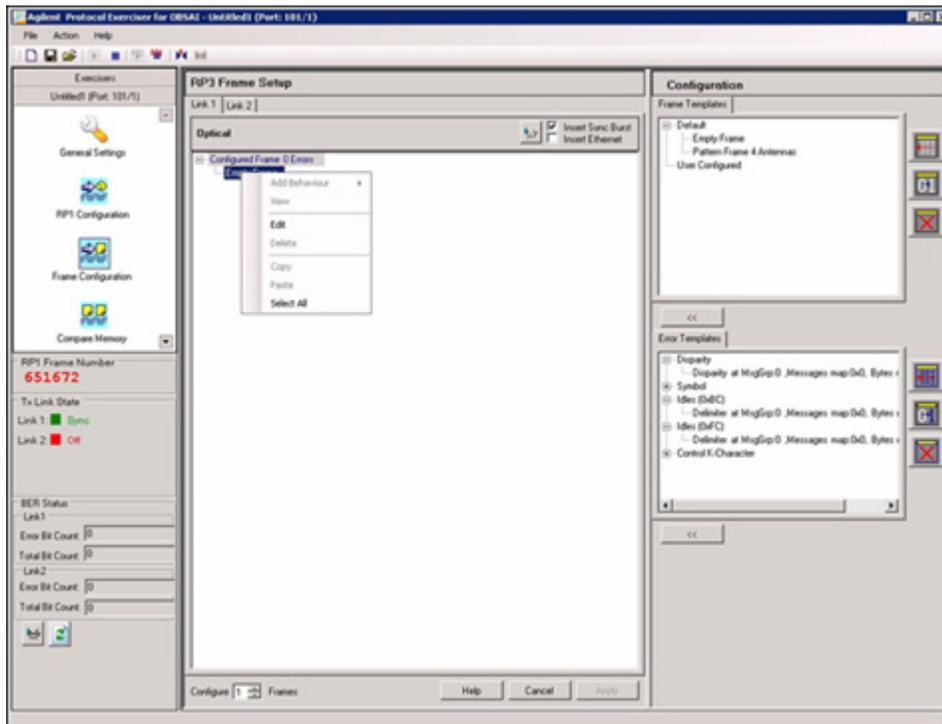

Figure 26 RP3 Frame Setup
- 4 Right click the **Empty Frame** as shown in the Figure 26.